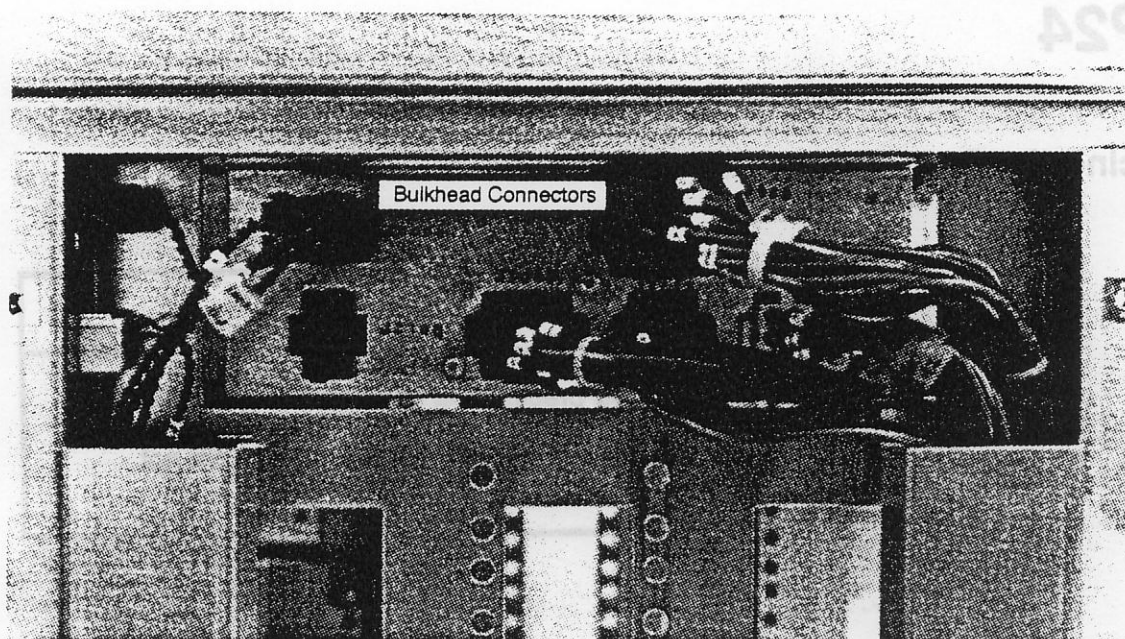

Figure 7-23. Bulkhead Connectors
7. Disconnect the bulkhead connectors (six on the front and five on the back) from the bulk converter. Refer to Figure 7-23.